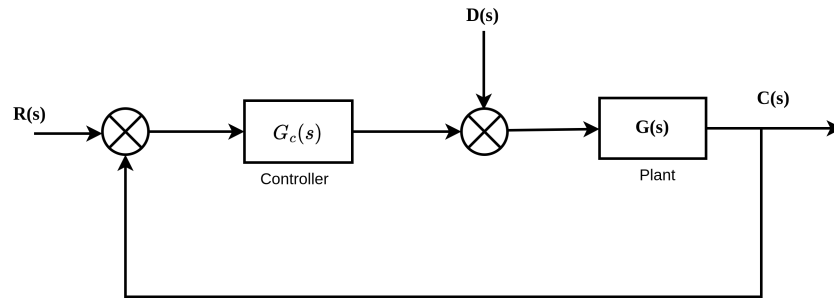

Figure 2: Plant Control System
2. Consider the control system shown in Figure 2. The system is controlled by a PID controller for a second-order plant  $G(s)$  given by: